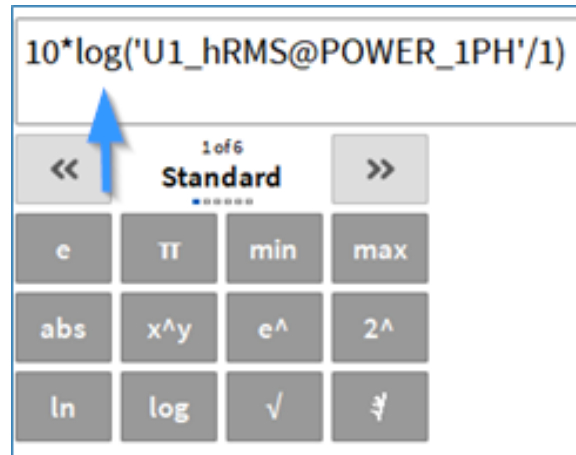

Fig. 7.71: Standard operators in combination with array channels
- Standard operators (see Fig. 7.71)